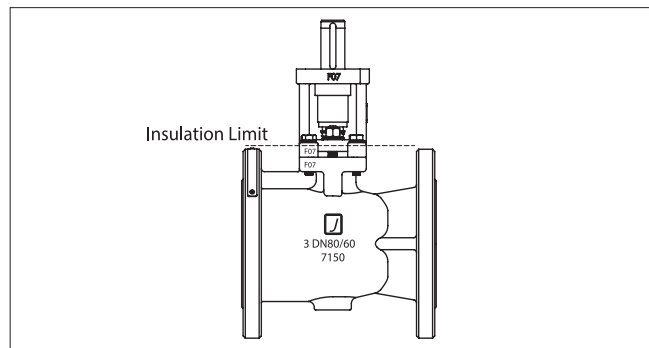

Figure 4. Insulation of the Valve
*Jamesbury* Flanged Ball Valves do not require insulation. If desired, the valve may be insulated; however, the insulation must not continue above the upper level of the valve. (see **Figure 4**).